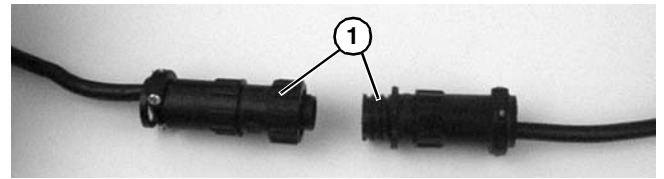

Figure 36
1. For DC variable speed motor, unplug motor cord at disconnect (Figure 36, item 1).